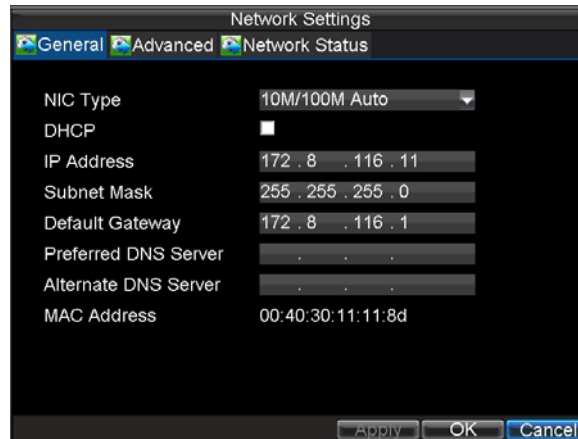

Figure3. Network Settings Menu
2. Select the **General** tab, as shown in Figure 3.